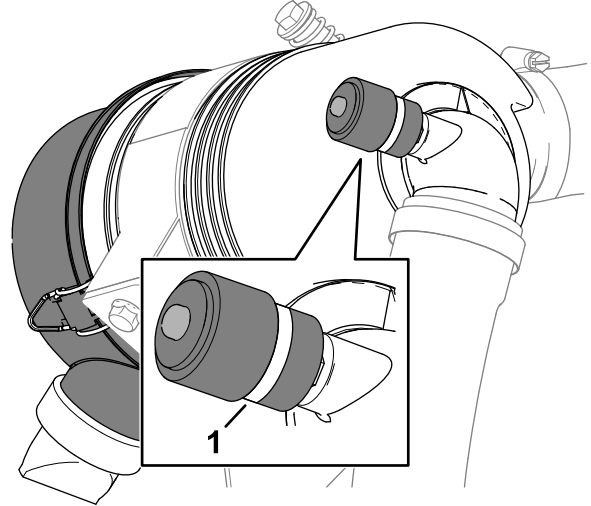

Figure 113
3. Check the service indicator at the end of the air filter housing (Figure 113).